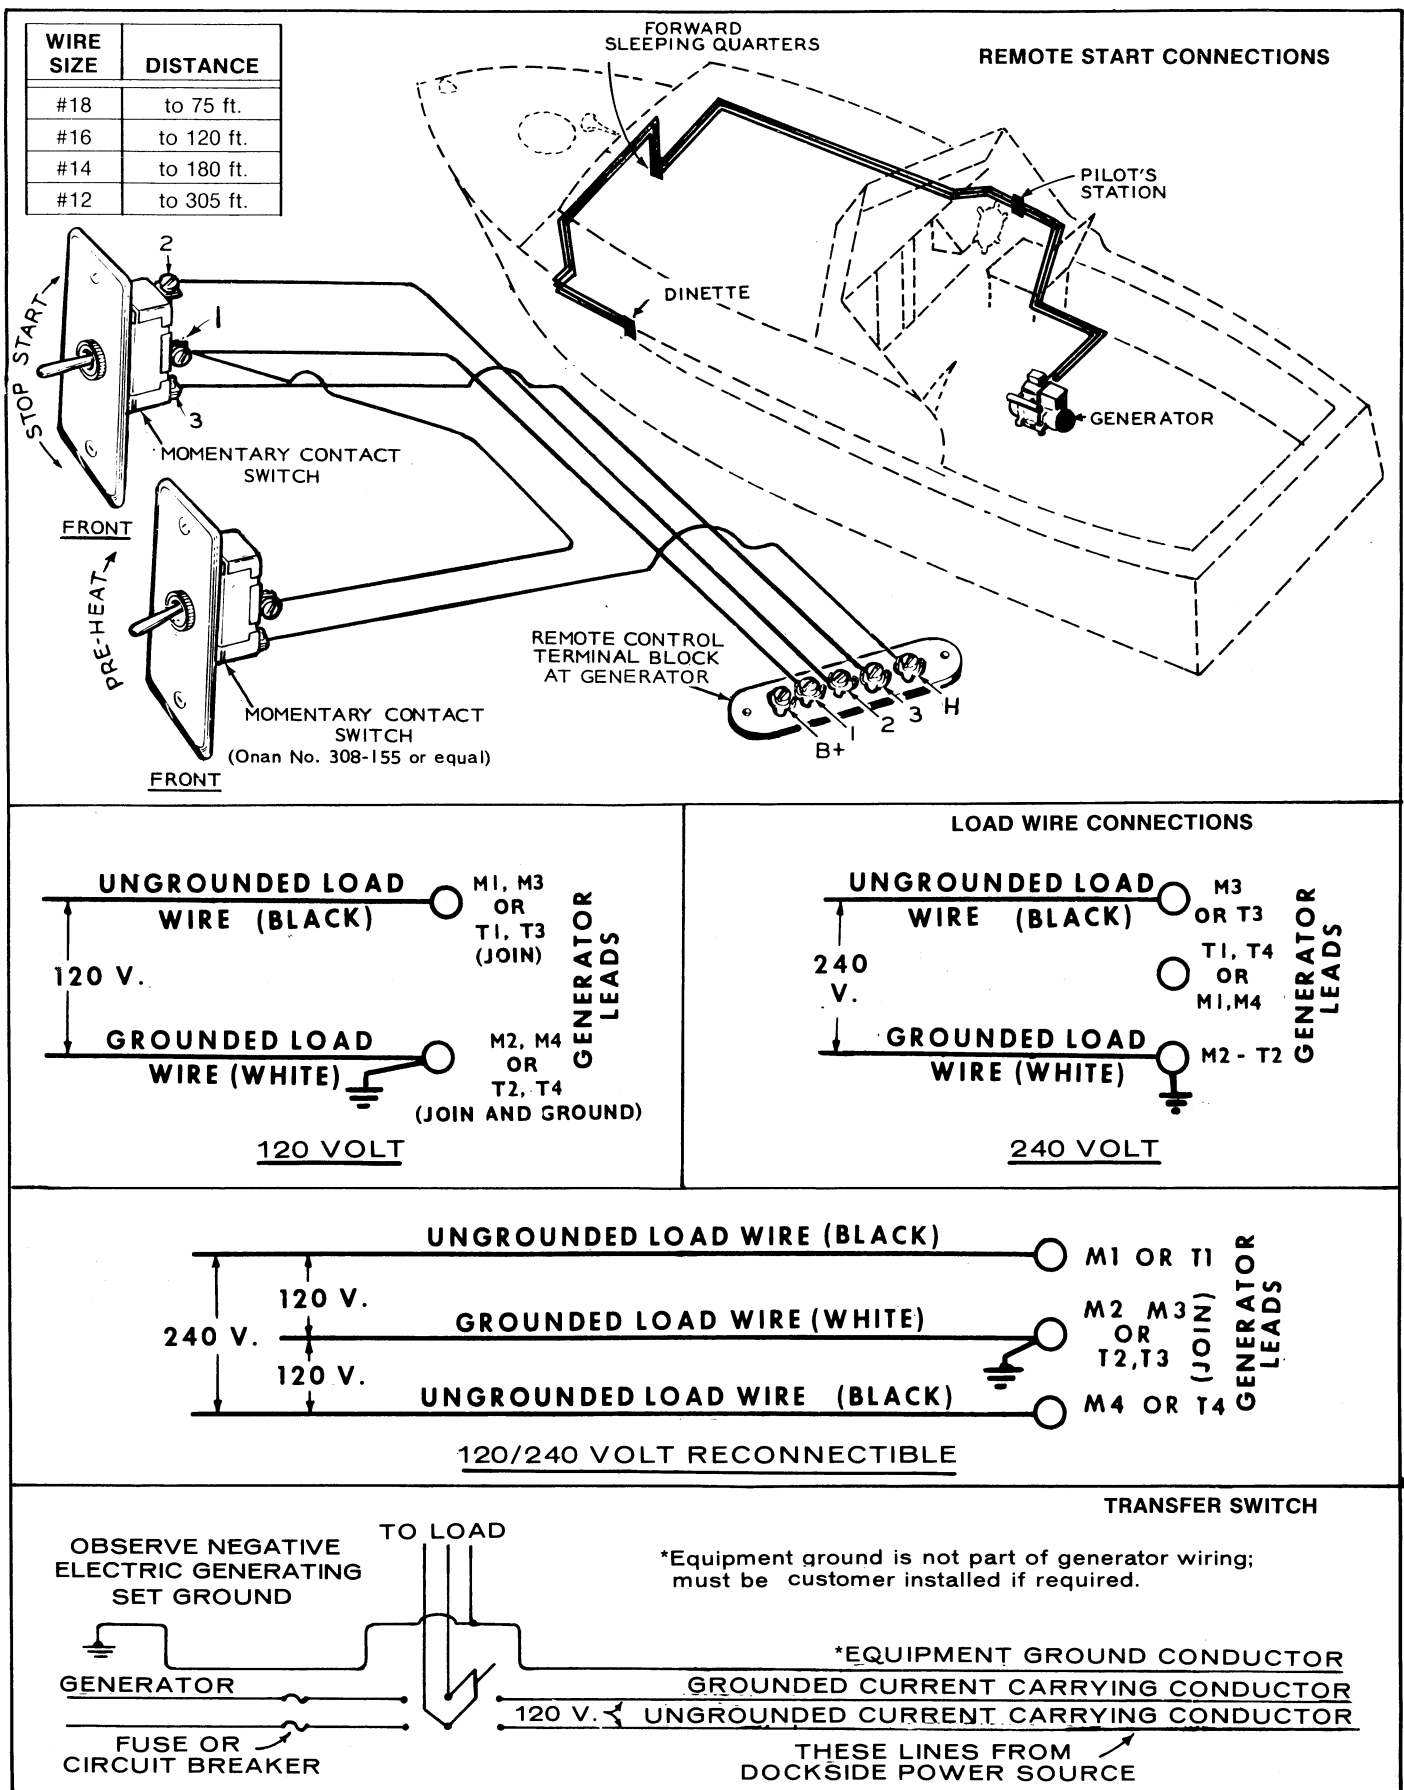

FIGURE 11. WIRING CONNECTIONS
For remote control starting and stopping, use 3 wires to connect the remote switch (single pole, double throw, momentary contact, center-off type) to the terminal block marked B+, 1, 2, 3, in the set control box using wire sizes as listed in Figure 11. Preheat circuit requires an extra wire to terminal H and momentary contact switch, single pole, single throw connection. Remove jumper between terminals 3 and H before installing remote wiring.
Set nameplate shows the electrical output rating of the set in watts, volts and hertz. The set wiring diagram shows the electrical circuits and connections necessary for the available output voltage. Also see Figure 11.
**Shore Power:** If the installation connects to shore power, install a double-throw transfer switch (either manual or automatic type) to prevent feeding generator output into the shore power source lines and to also prevent commercial power and generator output from being connected to the load at the same time. Instructions for connecting an automatic load transfer switch is included with such equipment. See Figure 11